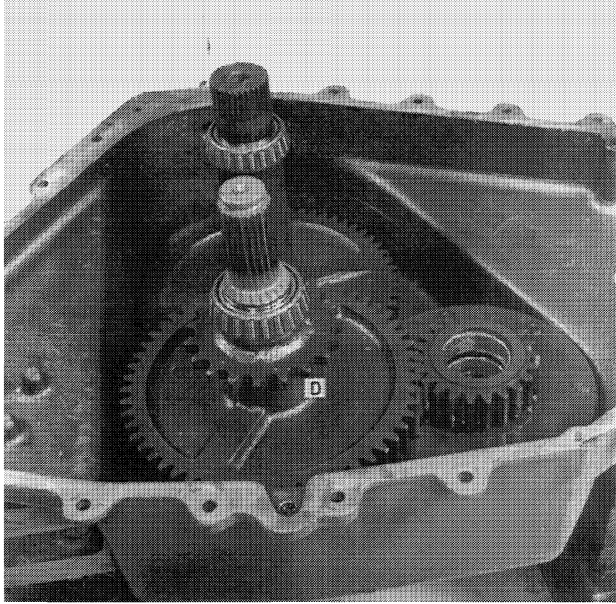

FIGURE 2-37
5. Lift out the intermediate shaft assembly, D, Figure 2-37.